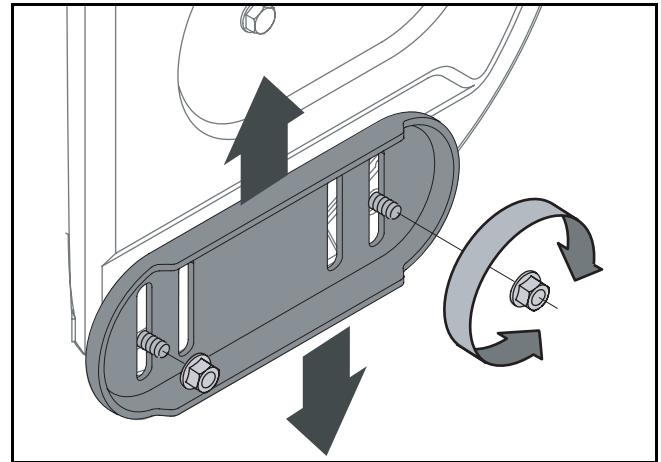

Figure 12
- Adjust skid shoes by loosening the flange lock nuts and carriage bolts. Move skid shoes to desired position. See Figure 12.
- Remove the carriage bolts and flange lock nuts which attach the two skid shoes to the snow thrower on two sides. See Figure 12.